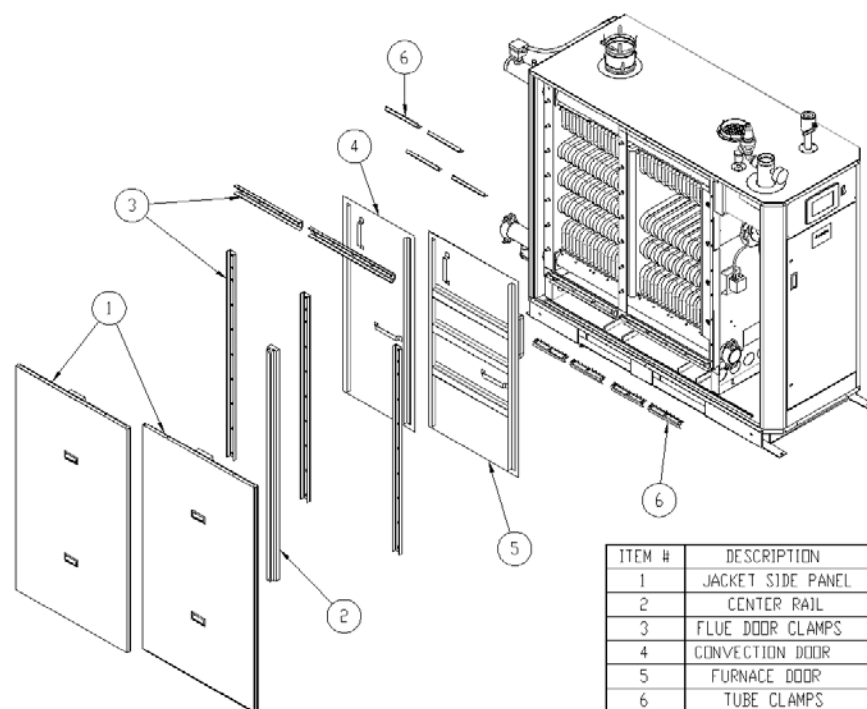

Figure 8: Panel Removal in Preparation for Tube Inspection
- d. Remove the boiler's left side jacket panels and flue collector access panels as shown in Figure 8.